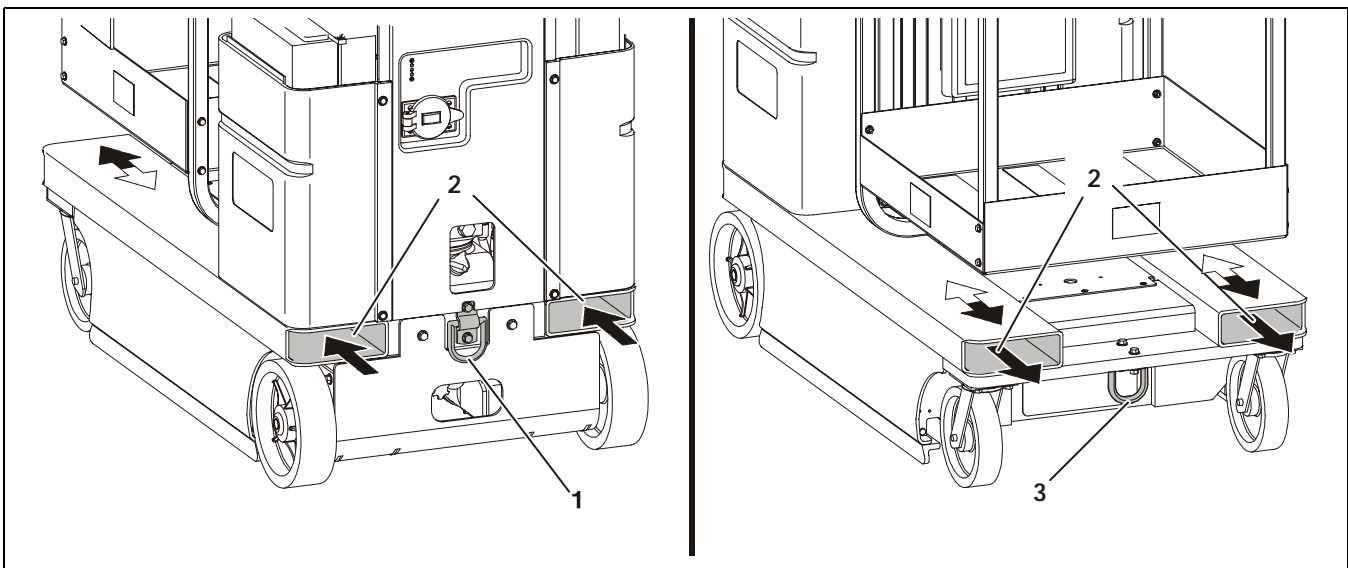

Figure 3-11. Forklift Truck Lifting Pockets and Machine Tie Down Bar Locations.
1. Secure machine with an adequate chain attached through the tie down loops located at the front and rear of machine. (See Figure 3-11.)
All DVL and DVSP Model Lifts are equipped with wide fork-lift pockets running through the base frame. (See Figure 3-11.) This allows the machine to be either transported around a work area or lifted onto a higher level using a standard fork-lift truck.